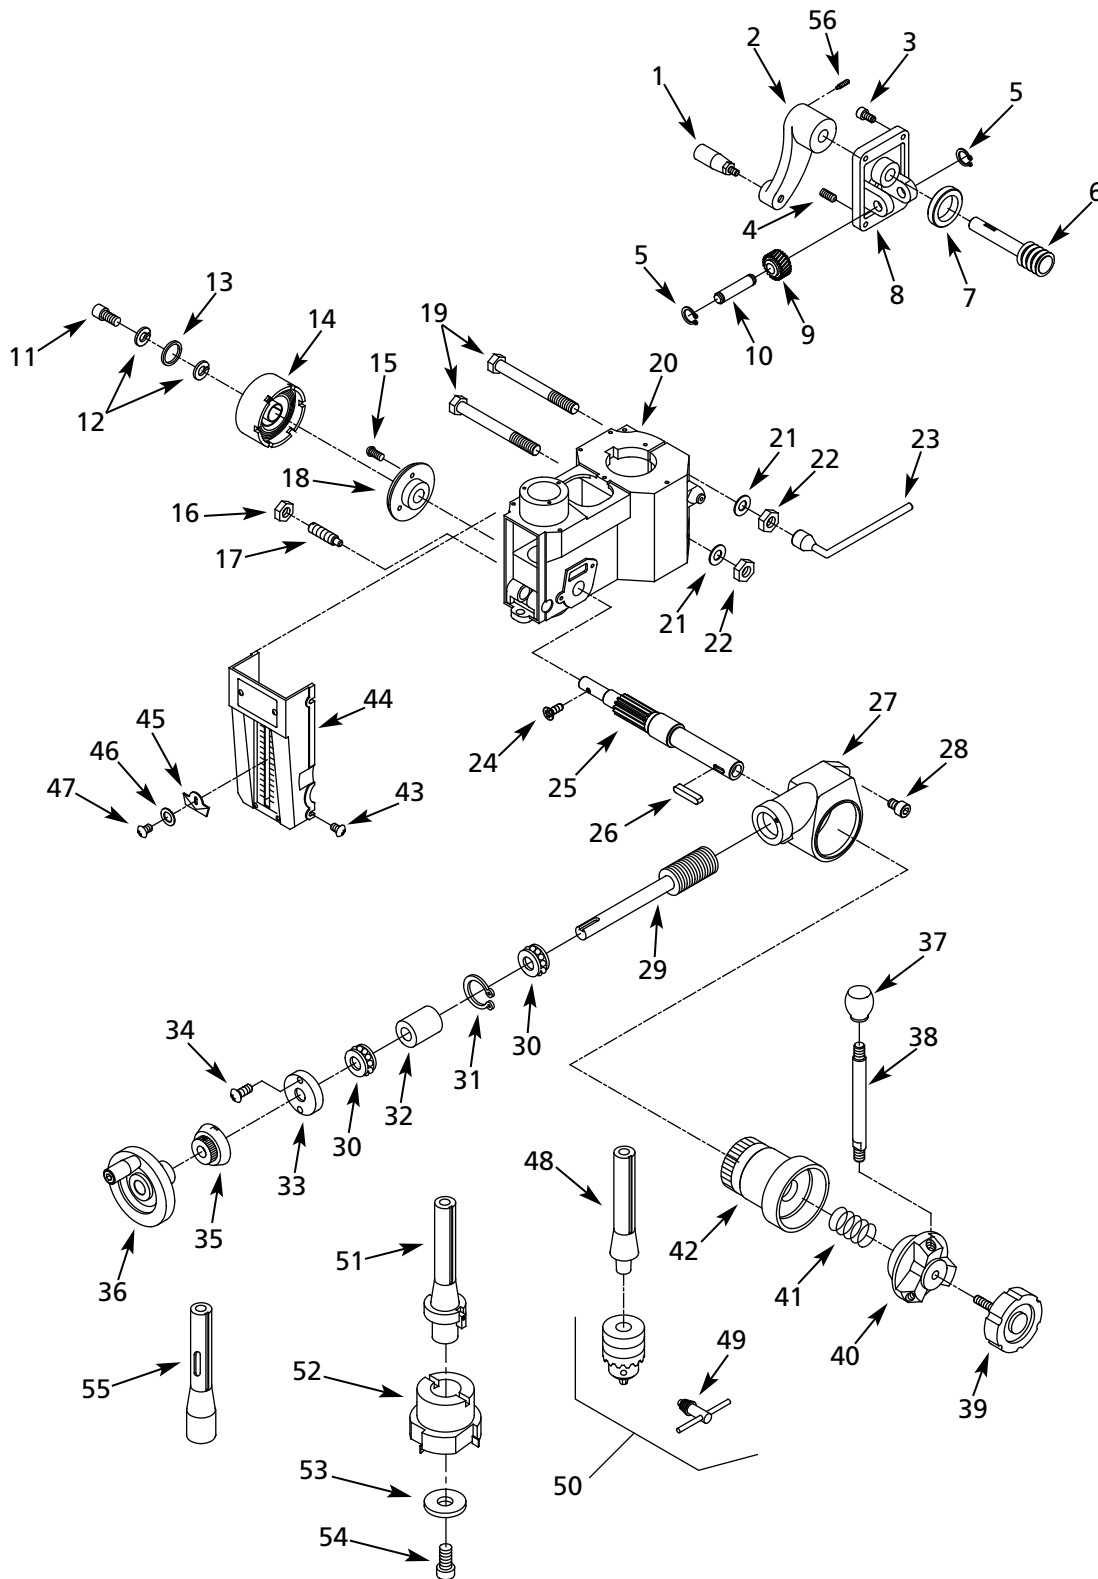
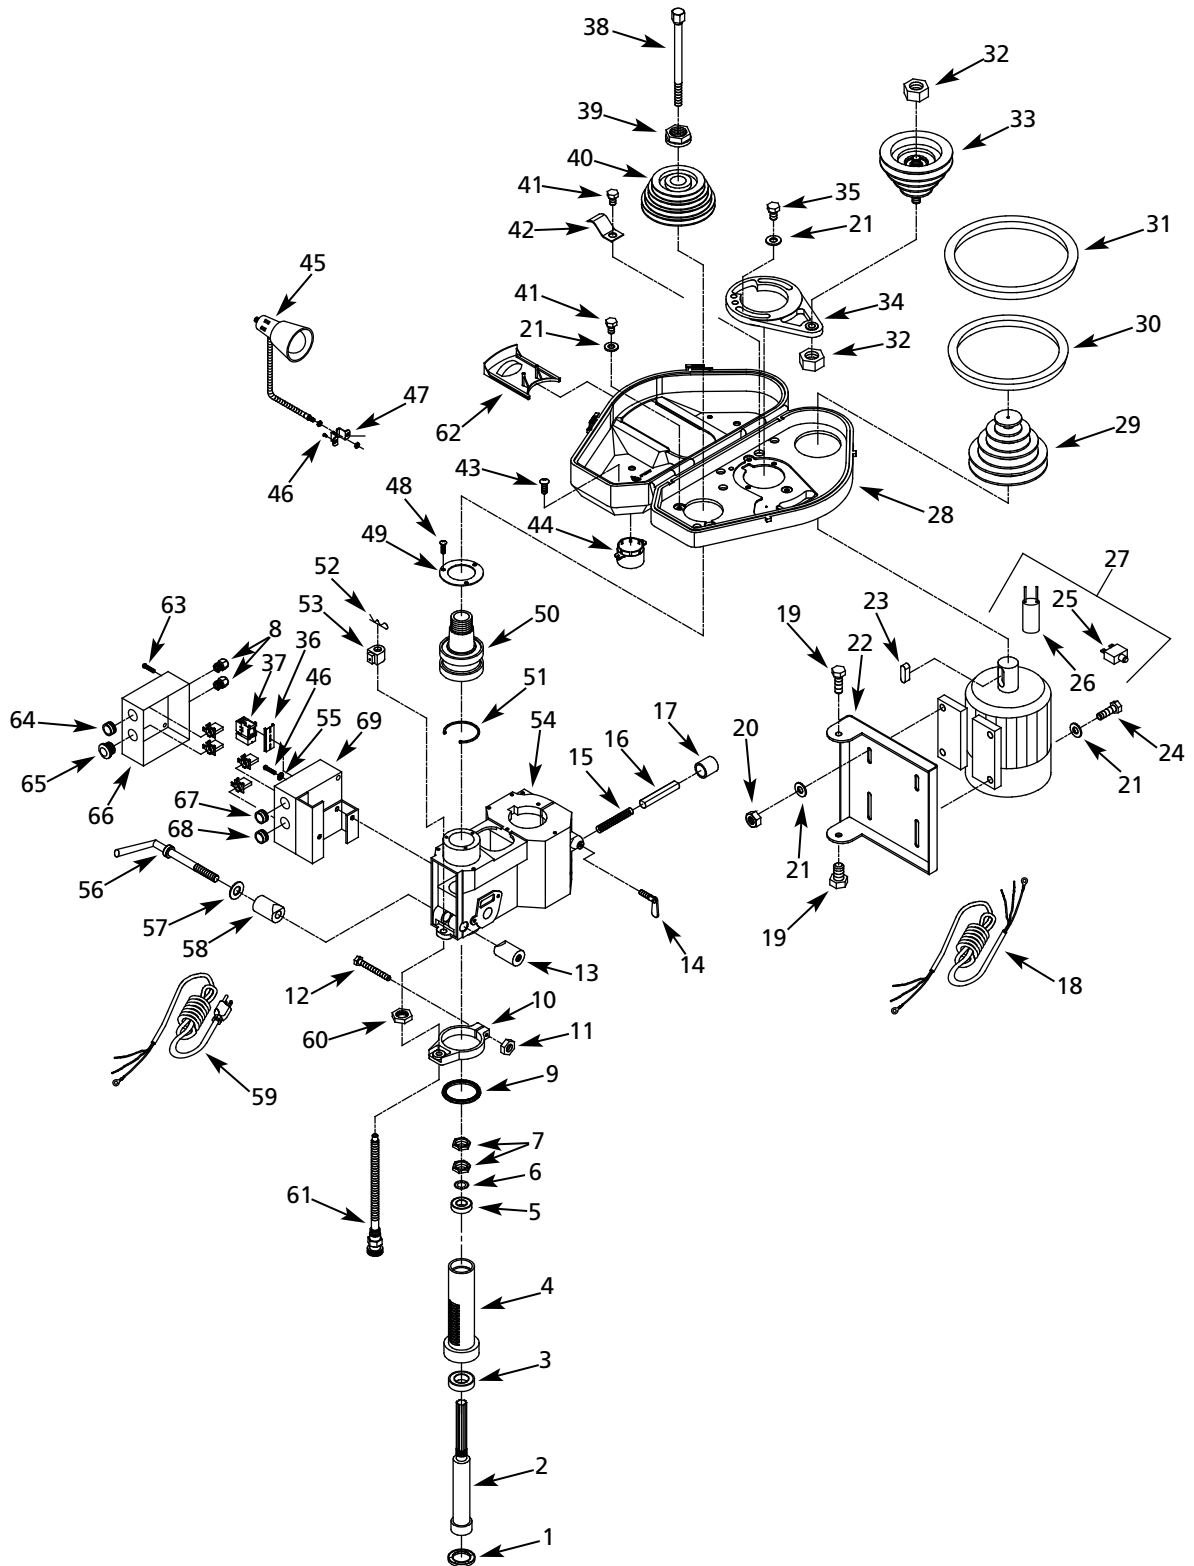

Figure 6 - Repair Parts Illustration for Head
Figure 7 – Repair Parts Illustration for Head
Depth of cut is shown on depth scale and indicated by depth indicator (Fig. 6, Ref. No. 45).
Refer to Figure 6 and 7, pages 8 and 10.
To replace return spring, push spindle to fully up position and lock it in place by tightening quill lock handle (Fig. 7, Ref. No. 56).
Loosen spring cover bolt (Fig. 6, Ref. No. 11) slowly and carefully rotate spring and cover clockwise to relax spring tension.
Remove spring cover bolt and washers (Fig. 6, Ref. No. 11, 12 and 13). When tension is released, rotate spring and cover clockwise to release spring from mounting screw.
Remove spring and cover. Place new spring over pinion shaft and slide slot at end of spring over mounting screw (Fig. 6, Ref. No. 24). Press spring and cover against head casting.
Test spring tension by pulling down on crank handle (Fig. 6, Ref. No. 38). Adjust spring tension as needed.
Overtightening spring causes quill to return with excessive force damaging quill and rubber bumper (Figure 7, Ref. Nos. 4 and 9).
Refer to Figures 6, 7 and 8, pages 8, 10 and 12.
1. Apply five to six drops of oil on splines at the top of spindle (Fig. 7, Ref. No. 2).
2. Oil gear rack on back of quill where pinion shaft (Fig. 6, Ref. No. 25) engages quill (Fig. 7, Ref. No. 4).
3. Oil depth stop lead screw (Fig. 7, Ref. No. 61).
4. Apply bearing grease to rack (Fig. 8, Ref. No. 14) and pinion shaft (Fig. 6, Ref. No. 25). Remove pinion knob and handle base (Fig. 6, Ref. Nos. 39 and 40) to expose pinion shaft.